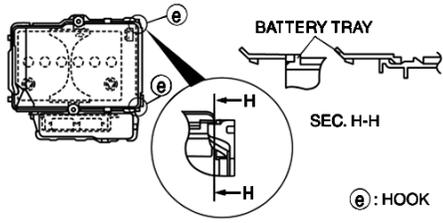

Fig. 4 Battery box installation
4. Install battery box. Assemble with battery box hooks (e) aligned with battery tray holes at two points, **Fig. 4**.